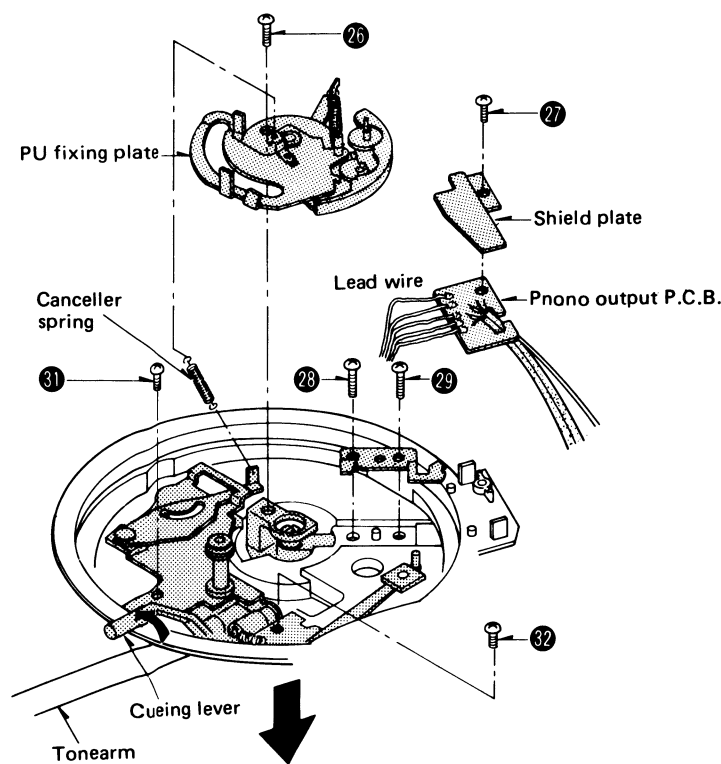

Fig. 7
3. When removing the tonearm, turn over the arm base and remove the PU fixing plate setscrew 26 and canceller spring. (See Fig. 7)
4. Remove the phono output P.C.B. setscrew 27 and unsolder the 5 lead wires from the tonearm. (See Fig. 7)
5. Remove the tonearm setscrews 28 and 29. Then, the tonearm can be removed in the direction of the arrow. (See Fig. 7)
10. Before mounting the arm base, make sure that the automatic mechanism is in the initial stage, and then shift the cueing lever of the arm base down in the direction of the arrow in order to make cueing-up. (See Fig. 7)